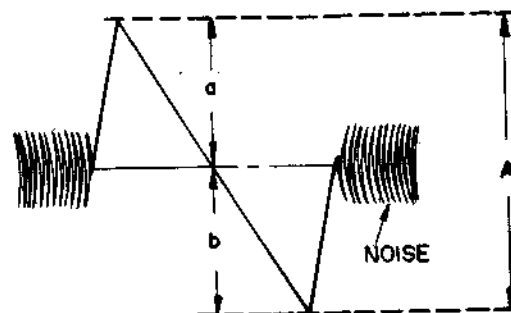

Fig. 3-6
- (5) Reset the core of T202 to equalize negative and positive peaks:  $a=b=\frac{1}{2}A$ . See Fig. 3-6.
- (6) Disconnect the sweep generator and make sure that the scope displays only noise. Adjust T201 core to make the Tuning Meter indicate the null point (center scale).